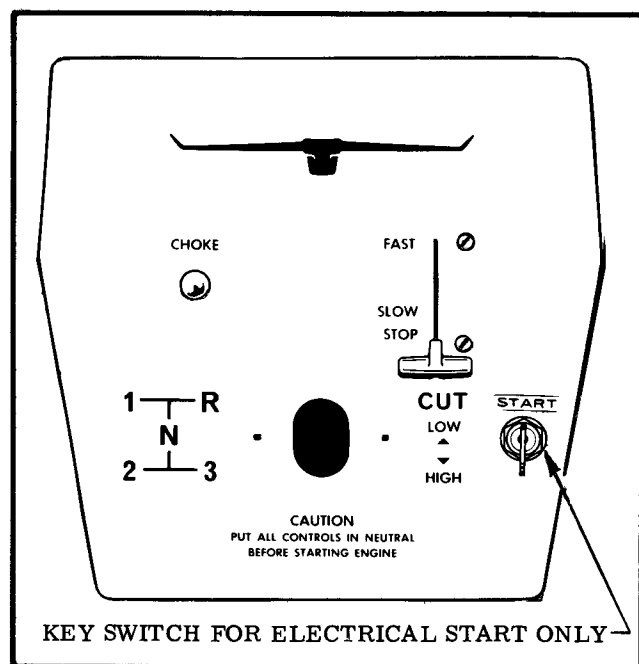
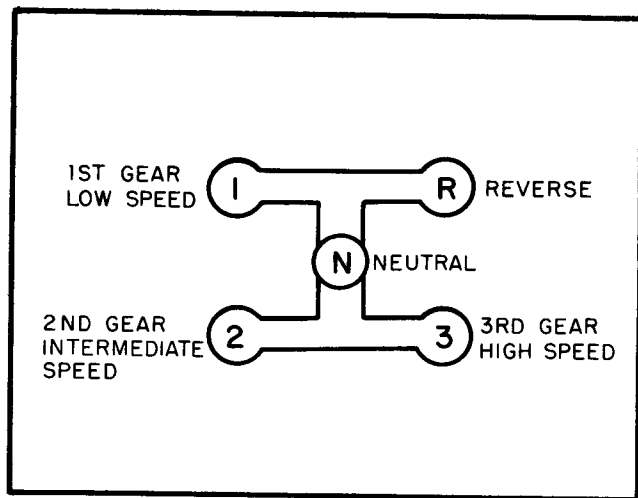

Figure 2. Location of Controls
Figure 3. Gear Shift Pattern
The engine operating controls are grouped on the control panel on the rear of the hood just under the steering wheel (figure 2). The control functions are marked on the panel. Gear shift, clutch and brake, are located convenient to the operator.
2. Move the gear shift lever into the speed you want. A shifting diagram is applied to the tractor where you can see it as you sit in the seat (figure 2) or refer to figure 3 below. You can start from a complete stop in any gear. Do not attempt to shift from one gear to another while running. If a change of gear is desired, stop the tractor, shift to the new gear desired and start again.